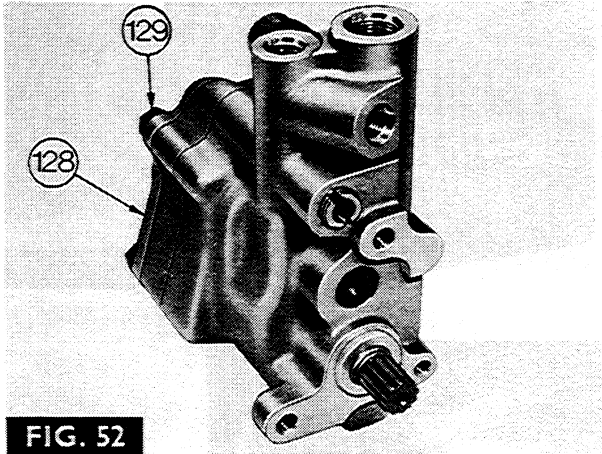

FIG. 52
- 10. Fig 52. Remove the four bolts (129) and spring washers securing the end plate (128) to the auxiliary pump (if fitted).
- 11. Remove the end plate (128) and then the feed pipe.
4. Fig 52. Refit the end plate (128), with a new seal, and secure with the four bolts (129) and spring washers.